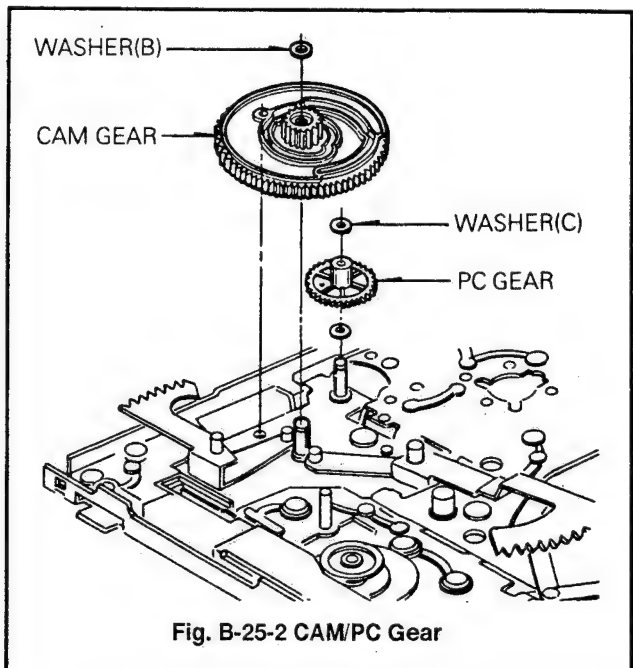

Fig. B-25-2 CAM/PC Gear
## 25. Cam Gear/Rack Gear T/Rack Gear FL(Fig. B-25-2)
- 2) Remove the washer(B), and then remove the Cam Gear (Fig. B-25-2).